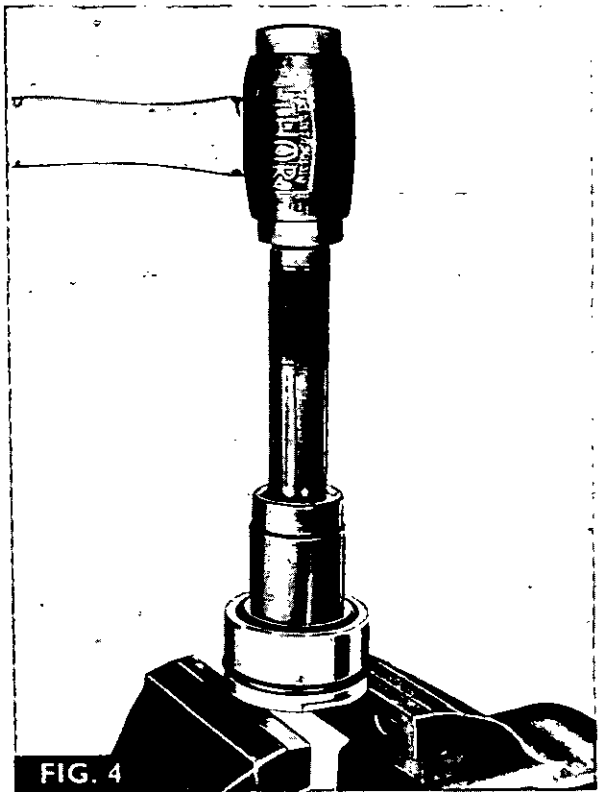

FIG. 4
1. Replace the oil seal using tool MF 168 and 550 handle as shown in Figure 4.